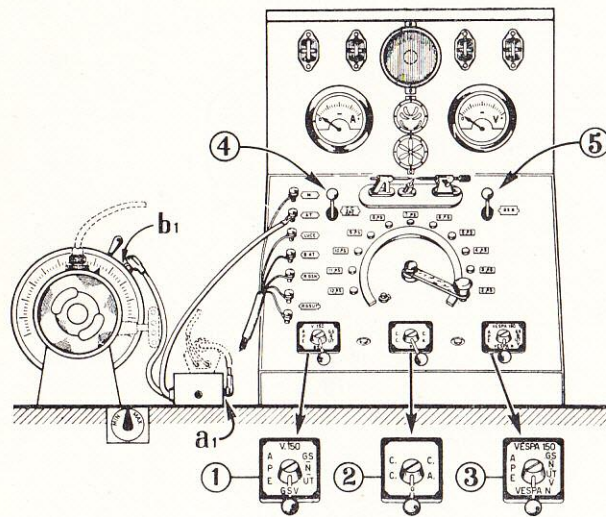

Fig. 80
The flywheel magneto test stand 8290/R (see Fig. 80) consists of the following units:
- (h) Three main switches (1-2-3 of Fig. 80), each showing the specific positions for the different flywheel magnetoes to be tested (see page 74). They control respectively:
- (3) (R.H.): ohmic loads specific of the different models.
- (i) Two switches (4 and 5 in Fig. 80), with two positions, for Vespa Commercial and Vespa G.S. having battery coil ignition (see also page 74).
- (c) Connect the cable from the ignition coil in the stator to clamp "a" of switching box (see Fig. 80).